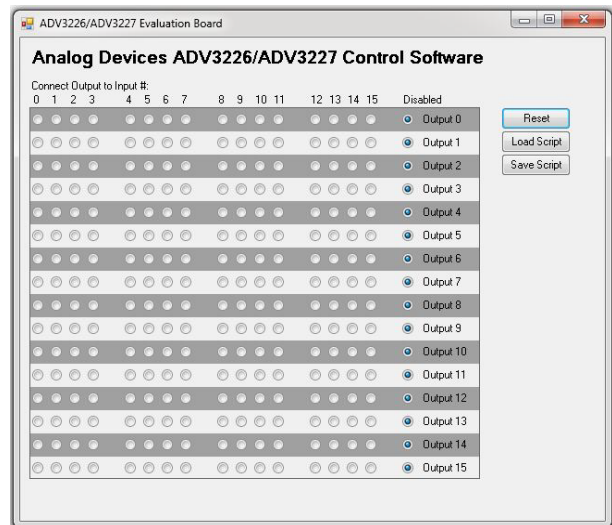

Figure 4. GUI Window for ADV3226/ADV3227 Control Software for the ADV3226/ADV3227 Evaluation Board
2. Extract the .zip file and open or run the .exe file. The GUI opens, as shown in Figure 4. By default, all inputs and outputs are disabled even though an input signal is present at the input port of the evaluation board.